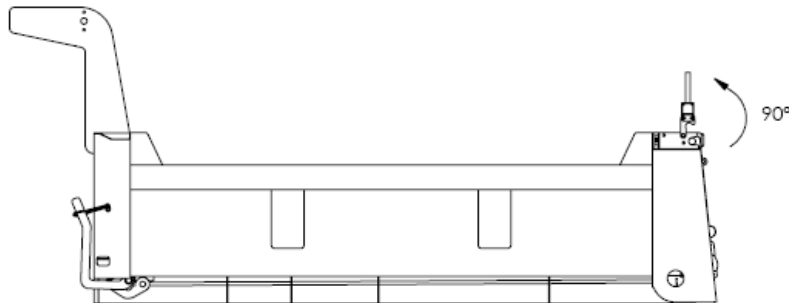

FIGURE 7
- b. Rotate the handle upward and open as shown in Figure 7.